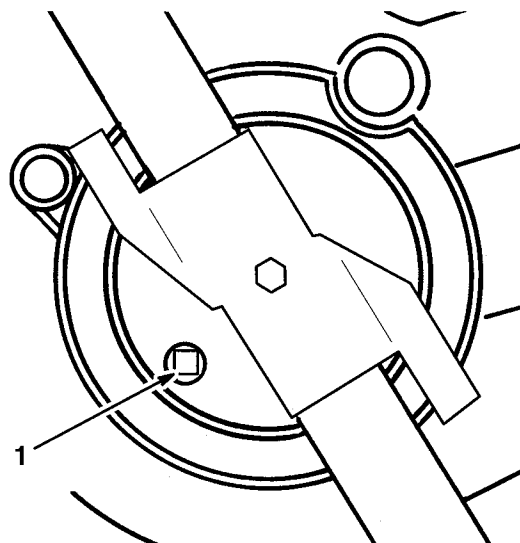

Figure 18
6. Remove drain plug from underside of mower (Fig. 18).